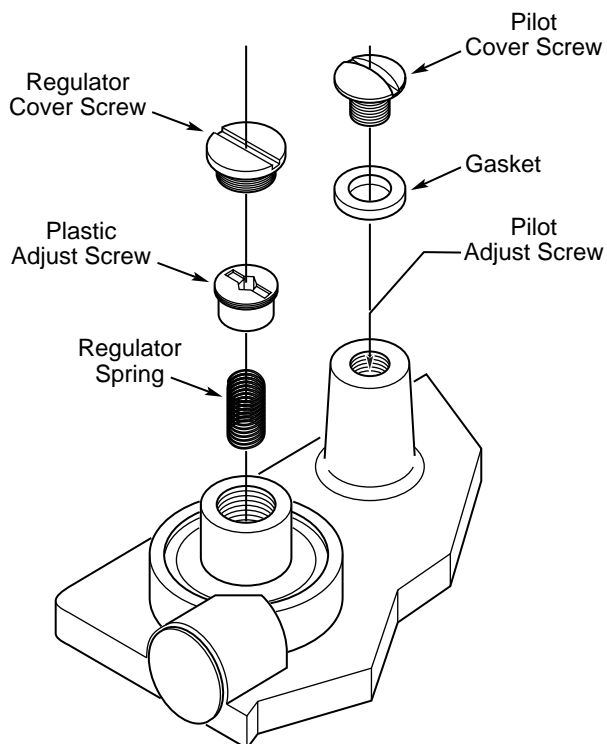

Figure 6
See **ADJUSTMENT** section (page 5) and fig. 6 for pilot set up.
2. Remove the pilot adjust cover screw and gasket to expose the adjusting screw (see fig. 6). Turn the adjusting screw **clockwise to reduce pilot flame**, or **counterclockwise to increase pilot flame**.
4. Remove regulator cover screw and turn regulator adjust screw **clockwise to increase pressure**, or **counterclockwise to decrease pressure** (see fig 6). Always adjust regulator to provide the correct pressure according to the original equipment manufacturer's specifications listed on the appliance rating plate.